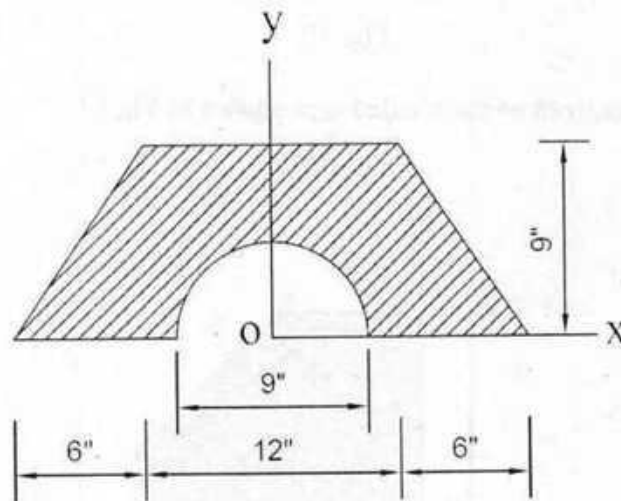

Fig. 8
8. Compute I_x and I_y for the shaded area shown in the fig: 8 below.